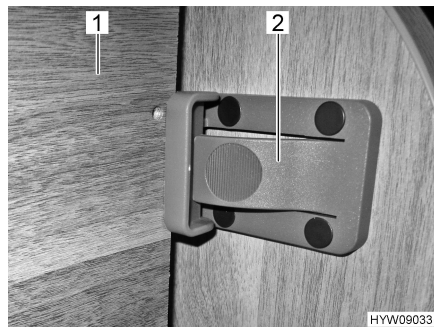

Fig. 33 Securing, front
- Lift bed (Fig. 33,1).
- Use the latch (Fig. 33,2) to secure the bed on the furniture wall.
- Press the latch (Fig. 33,2).